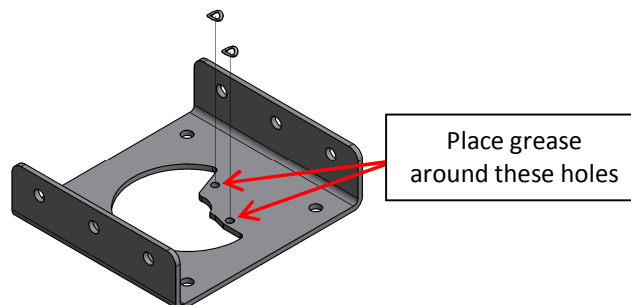

Figure 3: Wave Washer Placement
2. Place a bit of grease around the two holes in the bottom of the valve mounting bracket. Stick a #8 wave washer around each hole as shown in Figure 3 below. The grease acts like glue to hold the wave washers in place for the next assembly step.